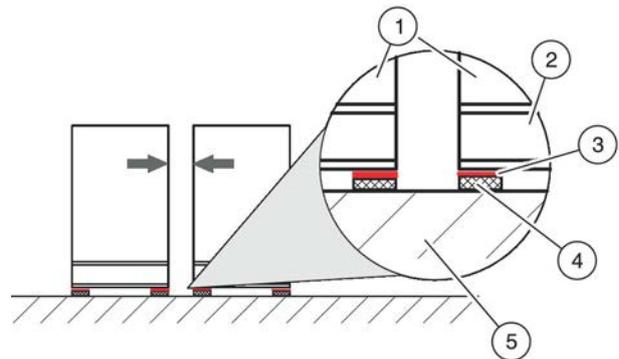

Fig. 14: Unit arrangement with anti vibration elements
Slide plates (Fig. 14 /3) considerably simplify the process of positioning the casing units (Fig. 14 /1) on a surface with a high friction coefficient, such as rubber or elastomer sheets (Fig. 14 /4).
- ▶ Position the slide plates (Fig. 14 /3, by others) under the base frames (Fig. 14 /2) of the individual casing units (Fig. 14 /1).